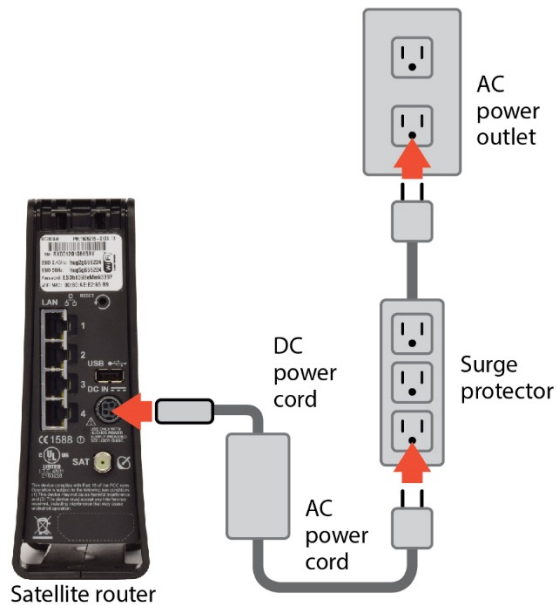

Figure 7: Powering up the modem
2. Select the options as shown in Figure 7.